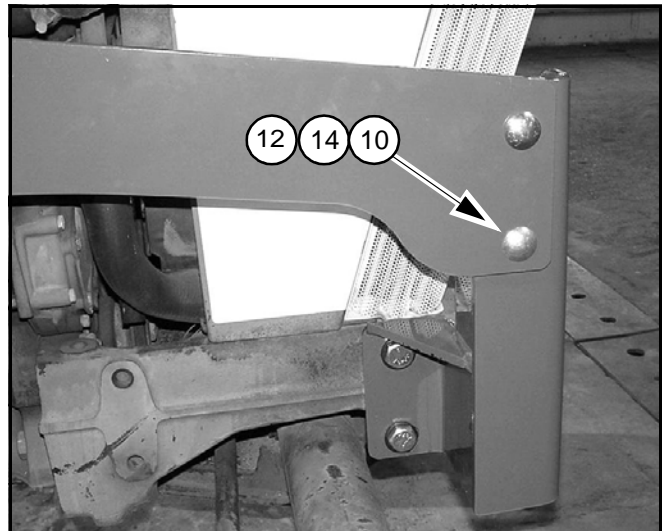

Figure 6 Side Rail Installed to Front Mount
2. Attach side rail to outside of front support, using two cap screws (12), flat washers (14), and nuts (10) as shown in Figure 6.